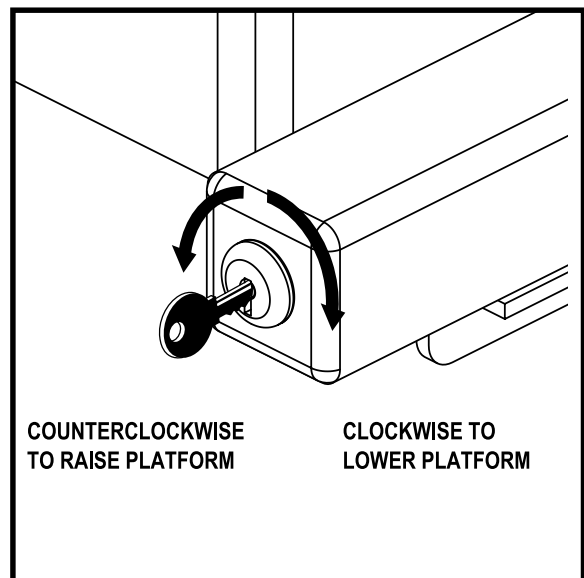

Figure 10. Key Switch Operation
2. Turn and hold the key clockwise to lower the lift platform. See figure 10. Release the key as soon as the lift platform touches the ground.
6. Turn and hold the key counterclockwise to raise the lift. See figure 10. Continue to raise the lift until the motor stops, then release the key.